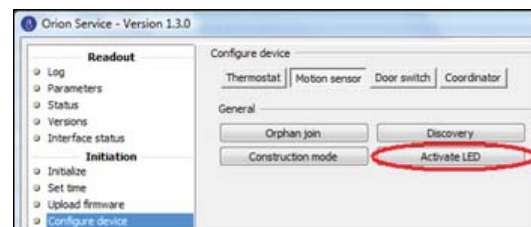

Figure 70
7. Go to the **Configure device** section in the left part of the Orion Service software window and choose the **Motion sensor** tab. Make sure that the service cable is plugged into the motion sensor and click the **Activate LED** button; see *Figure 70*.
10. Choose the **Configure device** section in the left part of the Orion Service software window. Make sure that the service cable is plugged into the motion sensor and click the **Activate LED** button; see Figure 70.
12. Test the range of the motion sensor. First, make sure that the door is open as this will ensure that the motion sensor is not deactivated by the thermostat. Choose the **Configure device** section in the left part of the Orion Service software window. Make sure that the service cable is plugged into the motion sensor and click the **Activate LED** button; see Figure 70. Walk around the room; the LED of the motion sensor will light up as motion is detected. Ensure that the range is sufficient to pick up motion in the room. The LED will be active for 10 minutes and then automatically turn off. The system is now ready for use.